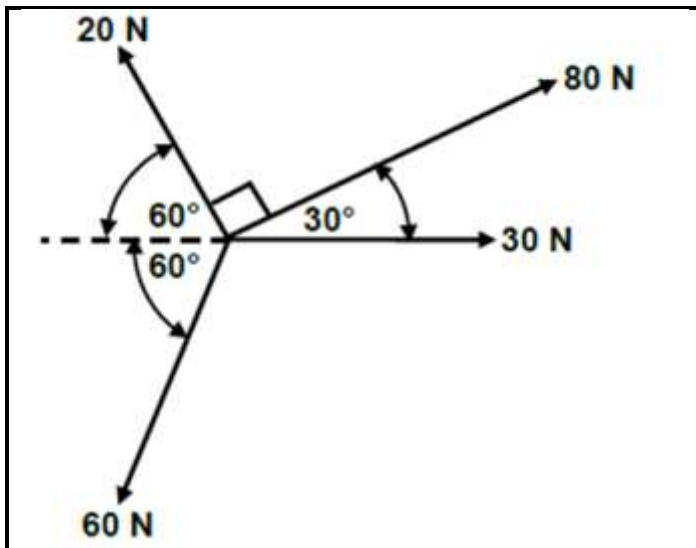

FIGURE 2
1.2 FIGURE 2 below shows a system of forces with four coplanar forces acting onto the same point. Use calculations and determine the magnitude and direction of the equilibrant of this system of forces.